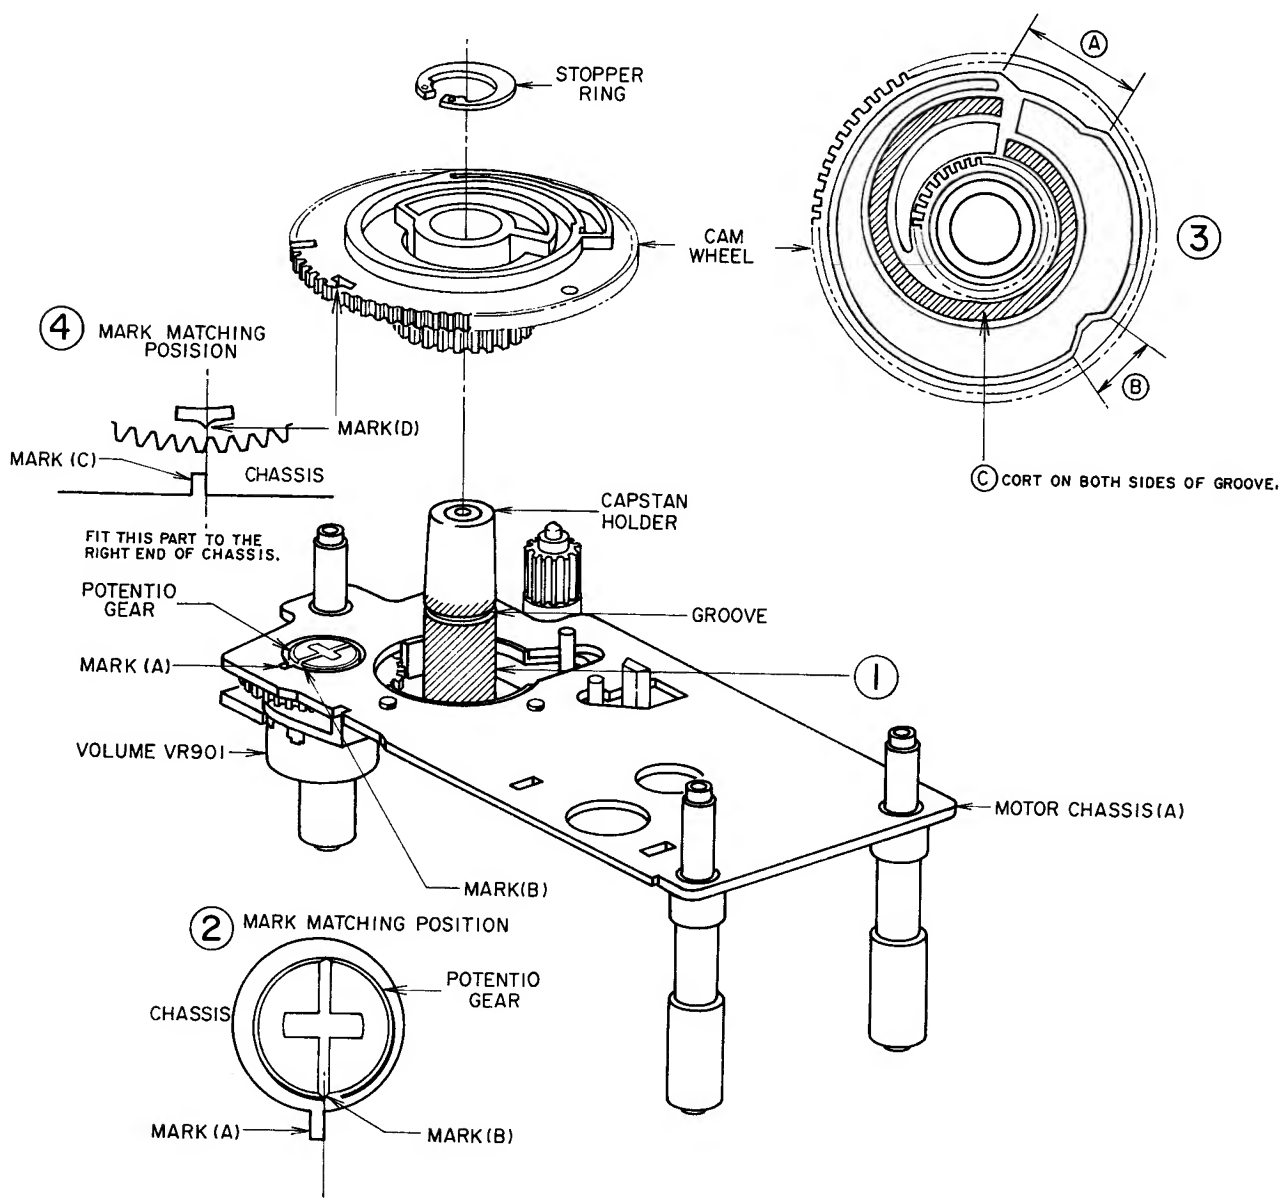

Fig. 2-10
Apply Molybdenum coat on the area of 360° from the bottom to the upside 2 mm of groove as shown in the figure. (Fig. 2-10-①)
Fit the right end of Mark (A) to the center of Mark (B) as shown in the figure. (Fig. 2-10-②)
- 3) Apply Molybdenum coat on (A), (B) and (C) shown in Fig. 2-10-③.
(Ensure that the cam wheel and potentiometer gear are meshed properly). When the cam wheel is set properly, fit the center of Mark (D) to the right end of Mark (C). (Fig. 2-10-④)